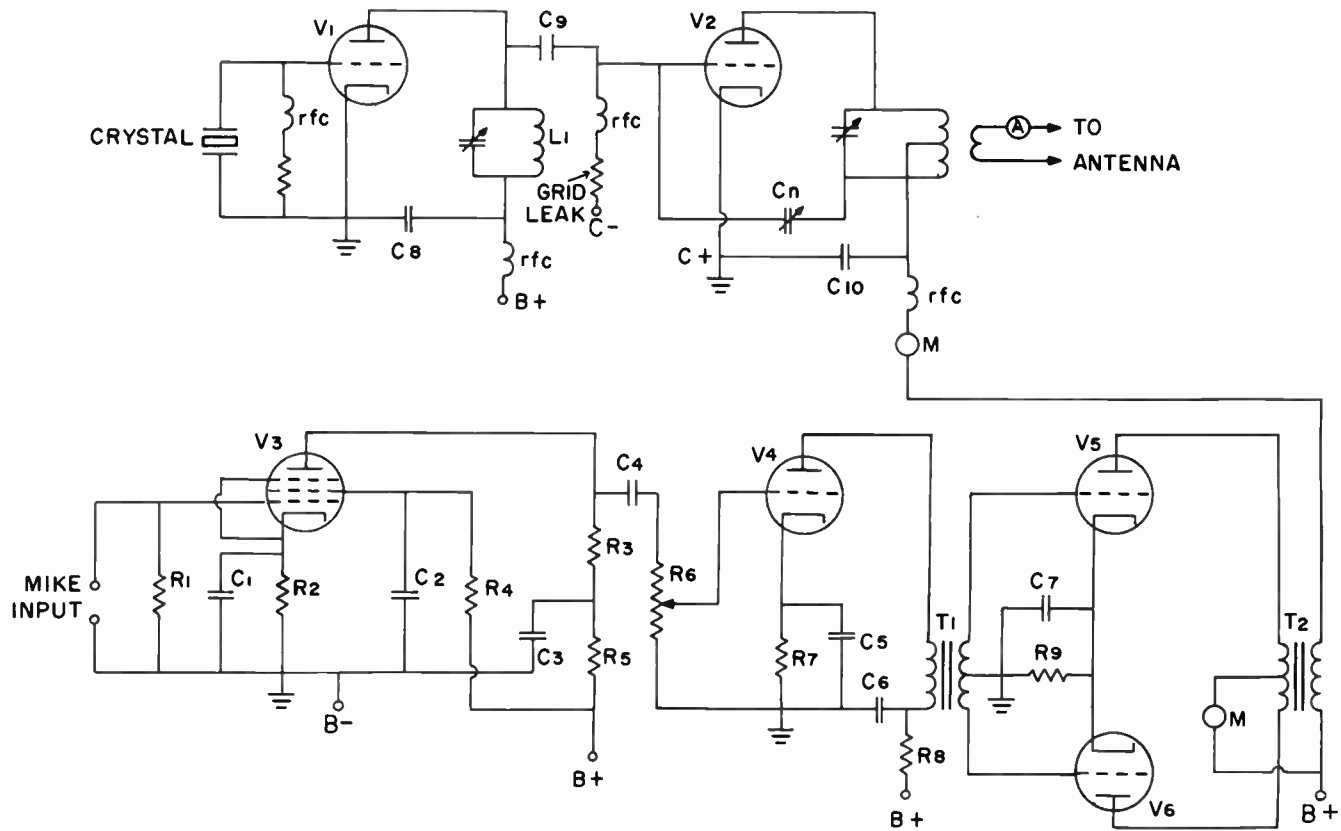

FIG. 14-13. A TYPICAL RADIOTELEPHONE TRANSMITTER.
**A TYPICAL RADIOTELEPHONE TRANSMITTER.** Fig. 14-13 illustrates a simple, low power, plate modulated radiotelephone transmitter. The power supplies have been omitted from the diagram for the sake of simplicity.
3 The following questions and answers are based on Fig. 14-13: